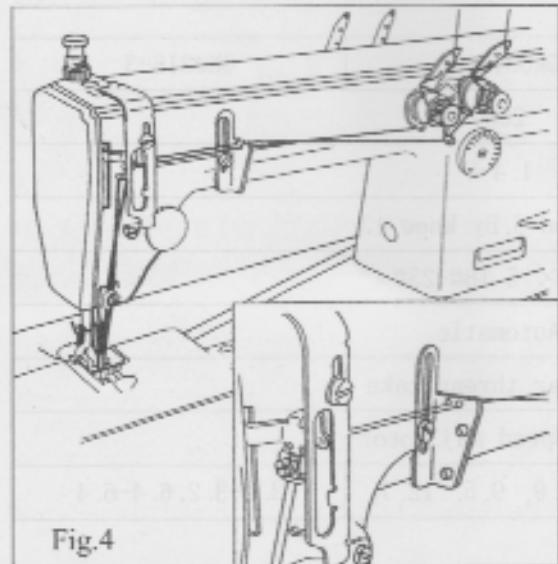

Fig.4
5. THREADING NEEDLE THREAD (Fig.4)
Pass the thread in the order as shown in Fig. 4 when the needle bar in high position. To make thread go through